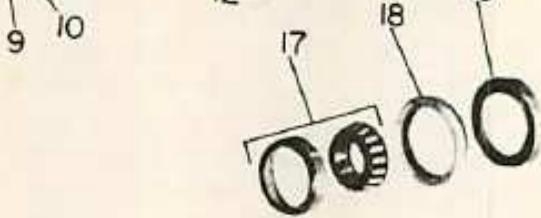

Fig. O10 — Exploded view of front wheel hub, bearing and seal assembly used on dual wheel tricycle models.
18. WHEEL BEARING ADJUSTMENT. Refer to Fig. O10 for exploded view of wheel hub and related parts. Remove cap (8) and cotter pin (13), then tighten nut until a definite drag is felt when rotating wheel. Back nut off to remove preload, then continue to tighten and loosen nut until a definite point is located where torque required to tighten nut definitely increases, then tighten nut to where cotter pin can be installed. Bearing
25. RENEW WHEEL BEARINGS AND/OR SEALS. Refer to Fig. O10 for exploded view of hub, bearing and seal unit used on dual wheel tricycle models.